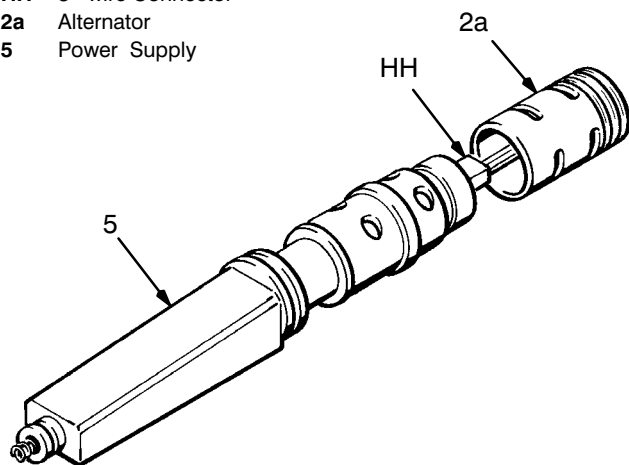

Fig 19
2. Carefully twist the turbine alternator (2a) *counterclockwise* and pull it off the power supply (5) until just disengaged from the coupling. Then continue to slowly pull the turbine alternator away from the power supply, disconnecting the 3-wire connector (HH). See Fig 19.
3. Using an ohmmeter, test the coil in the turbine alternator (2a). Measure the resistance between the two outer terminals of the 3-wire connector (HH). The resistance should be 3 to 5 ohms. If the reading varies from this value, replace the alternator.
4. Measure the resistance between each outer terminal of the 3-wire connector (HH) and the turbine alternator housing. The resistance should be infinite. If the resistance is not infinite, replace the alternator.
5. Partially connect the 3-wire connector (HH) onto the prongs inside the power supply (5). See Fig 19. Using a small screwdriver, push the connector onto the prongs until seated.